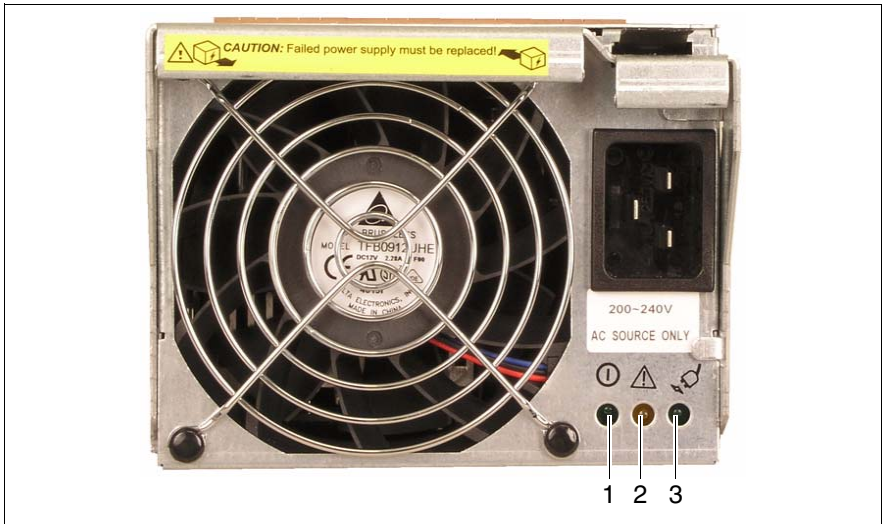

Figure 90: Power supply unit: LEDs
¹ If the large fan on the front fails, the power supply unit switches off. If one of the small fans on the rear fails, the power supply unit continues to run. See figure 90 for the location of the power supply unit fans.
- ▶ Check the FAN LED of the power supply units on the back of the system (see figure 90 on page 141) to determine which power supply unit is defective.